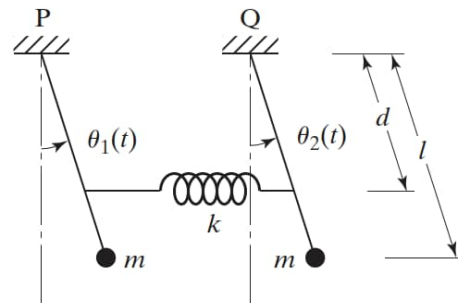

FIGURE 5.35 Two pendulums connected by a spring.
- 5.31** Two identical pendulums, each with mass m and length l , are connected by a spring of stiffness k at a distance d from the fixed end, as shown in Fig. 5.35.